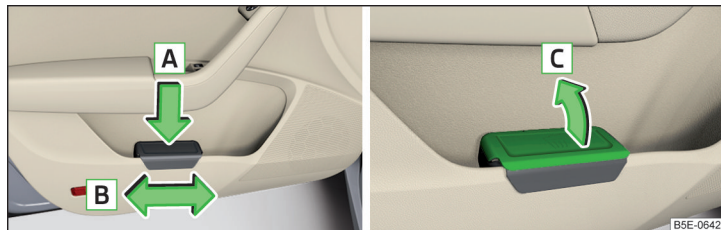

Fig. 84 Waste container: Inserting and moving/opening
- › Push the waste container in the rear area in the direction of the arrow » Fig. 84.
- › Remove the waste container in the opposite direction to the arrow » Fig. 84.
- › Lift the cover in the direction » Fig. 84.